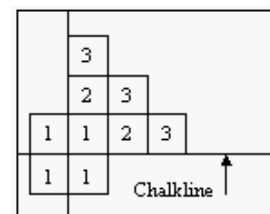

Figure 2
- e. Use the chalk lines as a guide for lining up the edges of the modules. Using the pyramiding technique, install one quadrant at a time, following the numerical sequence as shown below in Figure 2.